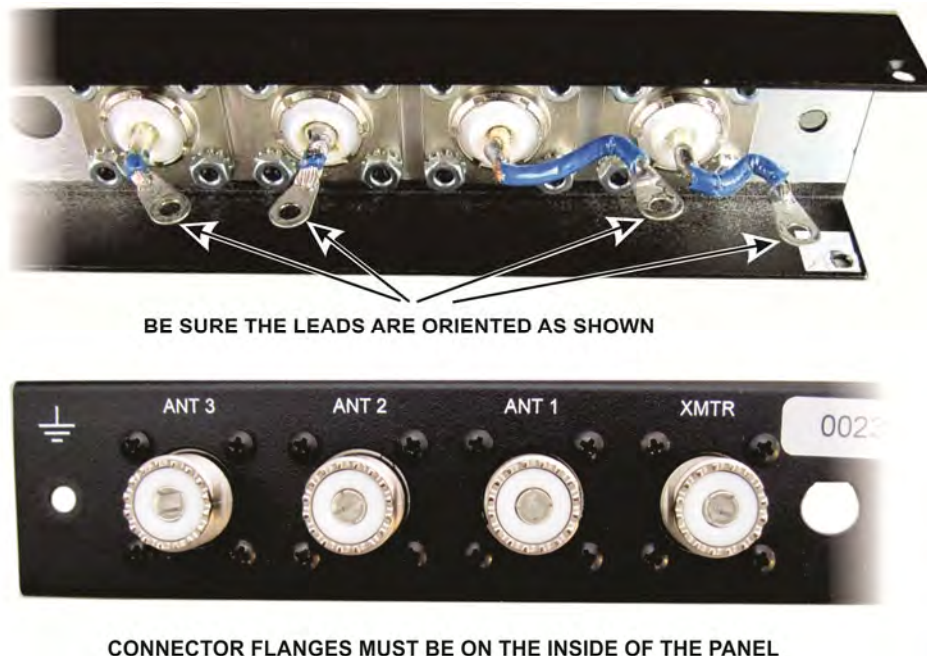

Figure 18. SO-239 Connectors Installed.
□ In the same manner, install the remaining SO-239 connectors on the rear panel, taking care to orient the connectors so the leads are as shown in Figure 18 and with the connector flanges on the inside of the rear panel.